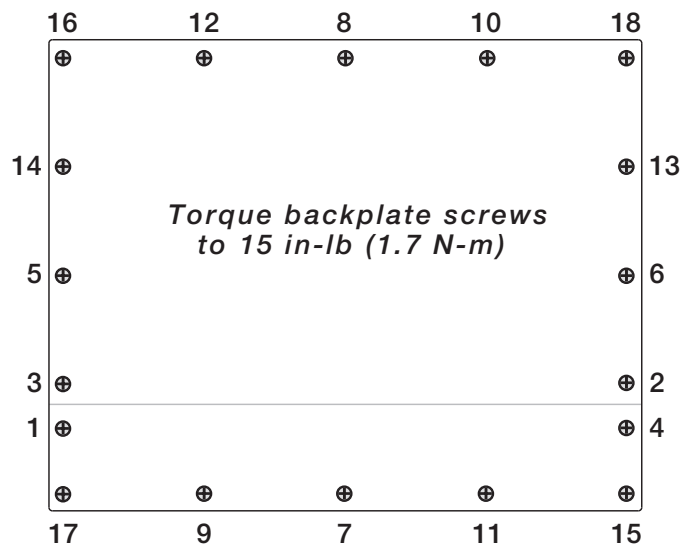

Figure 3-1. 920i Enclosure Backplate
3. Torque screws to 15 in-lb (1.7 N-m), using pattern shown in Figure 3-1, to prevent distorting the back plate gasket.
4. Re-install the backplate (Figure 3-1 on page 18).